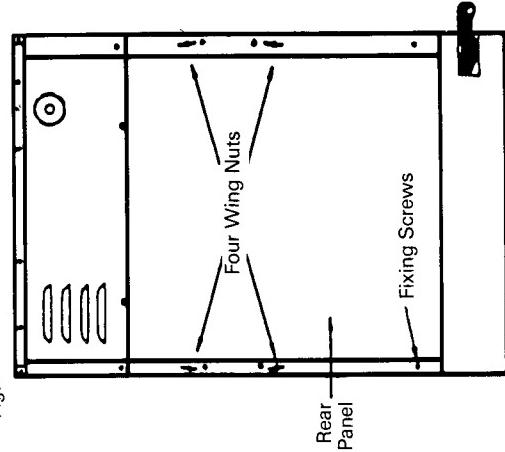

Fig. 1
1. Remove all six fixing screws, securing the rear panel (see Fig. 1).
2. Unscrew the four wing nuts from the rear panel (see Fig. 1).